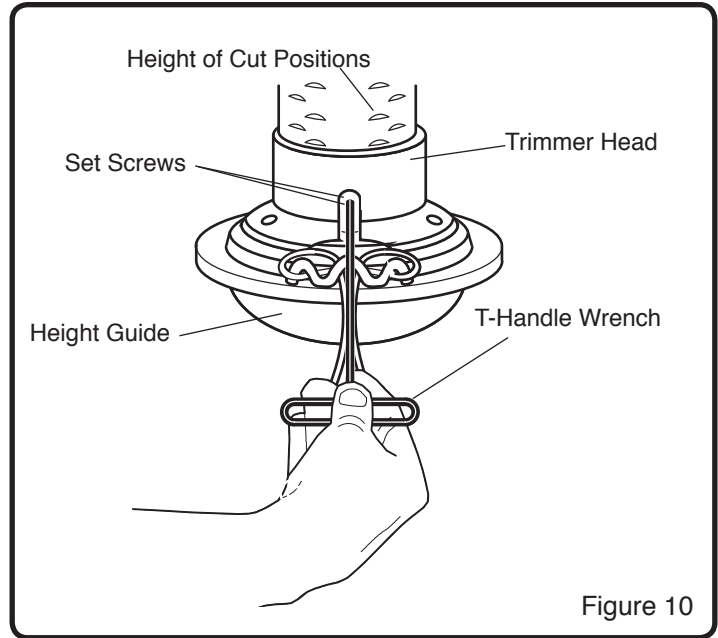

Figure 10
1. Use the T-Wrench, found in a parts bag, to loosen the (2) set screws. (See Figure 10)
**NOTE:** The (2) set screws are only on one side of the trimmer head. If you don't see the set screws, check the opposite side. Both set screws need to be loosened to adjust the height of the cut.